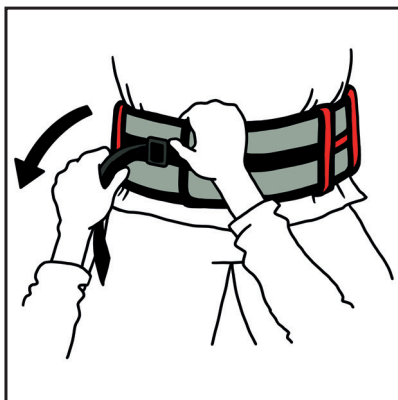

Figure 1
- Place the hip strap around the hips or waist of the user and close the buckle in front of the stomach (Figure 1). Take hold of the end of the strap and pull the hip strap tighter, until it is lying tightly yet comfortably around the user. You may need to tighten the strap again once the user has stood up (when using for walking training).